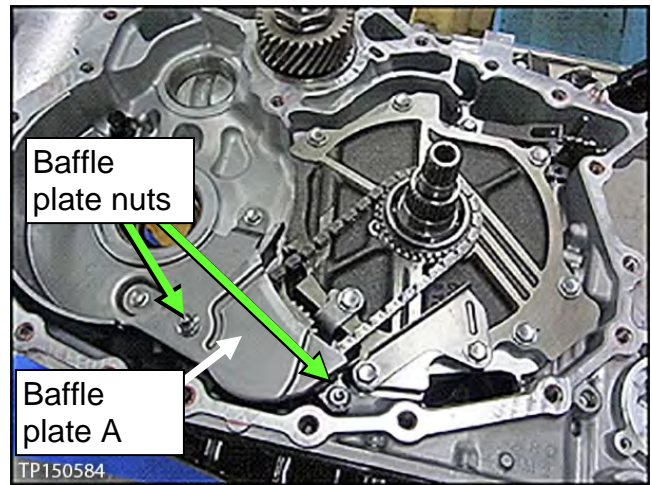

Figure 11C
8. Remove the two (2) nuts from baffle plate A, and then remove baffle plate A (see Figure 11C).